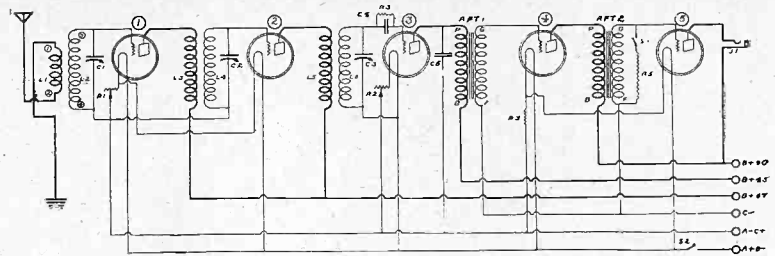

FIG. 346
**KINDLY INFORM** me as to the number of turns to place on a tubing 2 3/4" in diameter to constitute the primary and the secondary windings of a radio frequency transformer, the secondary to be shunted by a .0003 mfd. variable condenser. (2)—I would also like to have a diagram of 6-tube receiver, employing two stages of tuned RF, a non-regenerative detector and three stages of resistance coupled audio frequency amplification.—A. E. Henderson, 3026 North 48th Ave., Omaha, Neb.
(1)—The primary consists of 10 turns. The secondary consists of 65 turns. Use No. 22 double cotton covered wire. (2)—Fig. 346 shows the electrical diagram of a set along the lines as you described. The audio portion is different. However, by following this description, you may obtain the wiring directions of the resistance AF stages. The wiring description of the RF and detector portion of the set can be obtained from the answer to Joyce Lucke's query. The plate post of the detector or third tube is brought to one terminal of a .1 megohm fixed resistor and to one terminal of a .001 mfd. fixed condenser, C5. The other terminal of the resistance is brought to the B plus 67½-volt post. The P post of this same socket also is brought to the one terminal of a .25 mfd. fixed condenser. The other terminal of this condenser is brought to one terminal of a .1 megohm resistor and to the grid post on the fourth socket. The other terminal of this resistance is brought to the A minus post on the strip. The plate post on the fourth socket is brought to one terminal of a .1 megohm fixed resistor and to one terminal of a .25 mfd. fixed condenser. The other terminal of this resistor is brought to the B plus 135-volt post. The other terminal of the .25 mfd. fixed condenser is brought to the grid post on the fifth socket and to one terminal of a .5 megohm fixed resistor. The other terminal of the fixed resistor is brought to the A minus post on the strip. The plate post on this fifth socket is brought to a terminal of a .1 megohm fixed resistor and a terminal of another .25 mfd. fixed condenser. The other terminal of this fixed resistor goes to the B plus 135-volt post. The other terminal of the fixed condenser goes to the grid post on the last socket and to a terminal of a .25 megohm fixed resistor. The other terminal of this resistor is brought to the minus post of a 6-volt C battery. The plate post of this socket is brought to the top terminal of a single circuit jack. The bottom terminal of this jack is brought to the B plus 135-volt post. Now all the F plus, as well as the F minus posts are connected together. The common negative terminal is brought to a terminal of a 3/4-ampere ballast resistor. The other terminal of this ballast resistor is brought to the A minus post on the strip. The plus terminals are brought to one terminal of the switch S2. The other terminal of this switch is brought to the A plus, B minus post on the strip.
Fig. 346 shows the electrical diagram of this receiver. The primaries, L1, L3 and L5 consist of 10 turns. The secondaries, L2, L4 and L6, consists of 65 turns wound on a form 2 3/4" in diameter. Fifteen dowel sticks are employed. These are 1/4" in diameter. The under two and over two method of winding is employed. No. 22 double cotton covered wire is used. C1, C2 and C3 are .0003 mfd. variable condensers. If you wish to use .0005 mfd. variable condensers, then the secondaries should consist of 55 turns. R1 is a 10 ohm rheostat. R2 is a 15 ohm rheostat. R3 is a 1/2 ampere ballast resistor. R5 is a high resistance rheostat (0 to 5 megohms). C4 is a .00025 mfd. fixed condenser. R3 is a 2 megohm grid leak. C5 is a .001 mfd. fixed condenser. AFT1 and AFT2 are both low ratio type audio frequency transformers. S1 is a single throw, single pole, or simple filament switch. S2 is a filament control switch. J1 is a single circuit jack. The radio frequency transformers may be placed on the end plates of the condensers or on angle irons mounted directly on the baseboard. When mounted, the second RFT should be mounted erect, with the windings of the other two RFT bending away from each other, (V shape formation). The primary windings may be wound in the regular fashion, e. g., 1/4 or 1/8" separation between the primary and the secondary windings, or 27 turns of the secondary are first wound, then 10 turns of the primary winding and 10 turns of the secondary winding are wound. This is followed by the remaining 28 turns of the secondary winding. A 7x24" panel can be used. The rheostat can be placed in between the condensers. The switches can be placed at the extreme bottom portions of the panel. The single circuit jack can be placed underneath the dial on the shaft of the second variable condenser. Now as to the wiring. The beginning of the primary winding, indicated by 1, in L1, is brought to the ground post. The end of this winding, indicated by 2, is brought to the antenna post. The beginning of the secondary winding, indicated by 3 in L2, is brought to the grid post on socket 1 and to the stationary plates of the variable condenser, C1. The end of this winding, 4, is brought to the rotary plates of C1 and to the arm of R1, which incidentally also goes to the A minus C plus post on the strip. The beginning of the primary winding, L3, is brought to the plate post on the first socket. The end of this winding is brought to the B plus